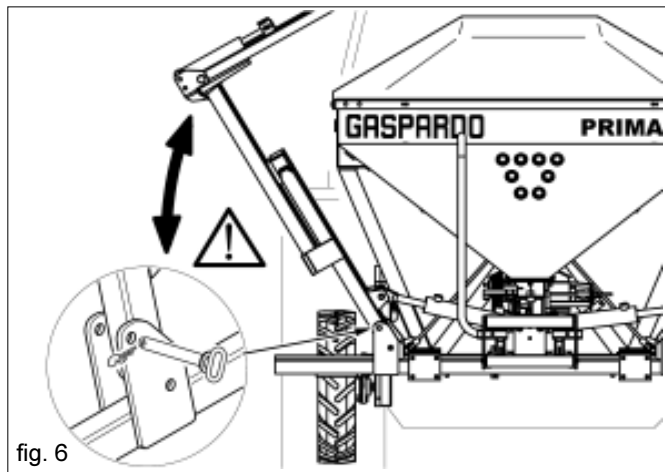

fig. 6
- 35) When transporting the tractor in places other than the work area, all equipment should be positioned for transport and all safety devices activated. (Fig. 6).